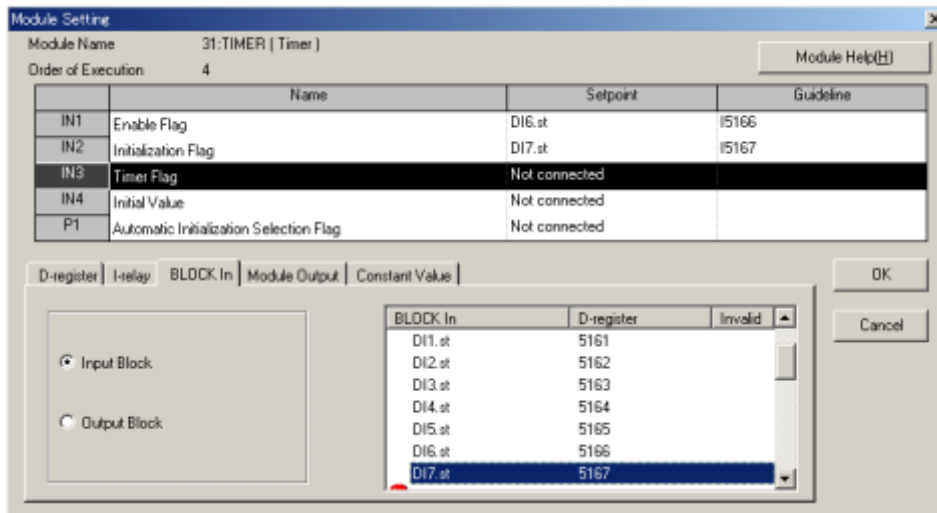

Figure 12.5.8 Configuration of the <IN2> Input
- (6) The <IN2> module input is waiting for the data setting.
- (7) Click the <BLOCK In> index.
- (8) Double-click <DI7.st> in the list box. The <DI7.st (Setpoint column)> and <I5167 (Guideline column)> options appear in the <IN2> row. (Figure 12.5.8)